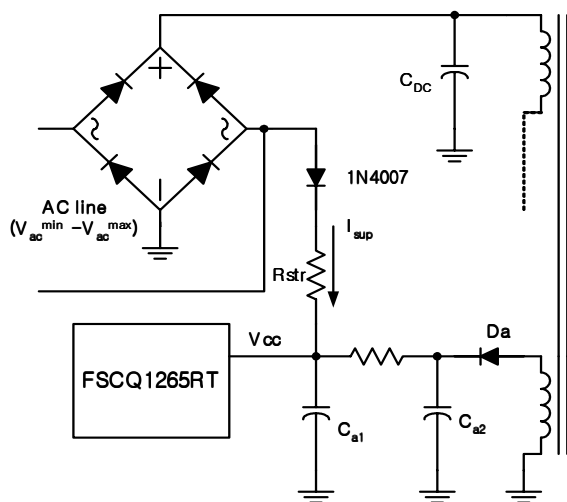
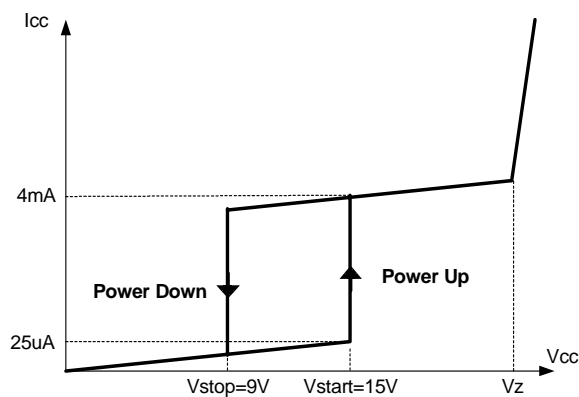

Figure 4. Startup circuit
Figure 5. Relation between operating supply current and V_{cc} voltage
1. Startup : Figure 4 shows the typical startup circuit and transformer auxiliary winding for FSCQ1265RT application. Before FSCQ1265RT begins switching, FSCQ1265RT consumes only startup current (typically 25uA) and the current supplied from the AC line charges the external capacitor (C_{a1}) that is connected to the V_{cc} pin. When V_{cc} reaches start voltage of 15V (V_{START}), FSCQ1265RT begins switching, and the current consumed by FSCQ1265RT increases to 4mA. Then, FSCQ1265RT continues its normal switching operation and the power required for this device is supplied from the transformer auxiliary winding, unless V_{cc} drops below the stop voltage of 9V (V_{STOP}). To guarantee the stable operation of the control IC, V_{cc} has under voltage lockout (UVLO) with 6V hysteresis. Figure 5 shows the relation between the FSCQ1265RT operating supply current and the supply voltage (V_{cc}).